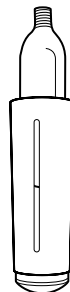

Figure 3. Cartridge “neck up” in can
2. Place a cartridge “neck up” in the can (Figure 3).